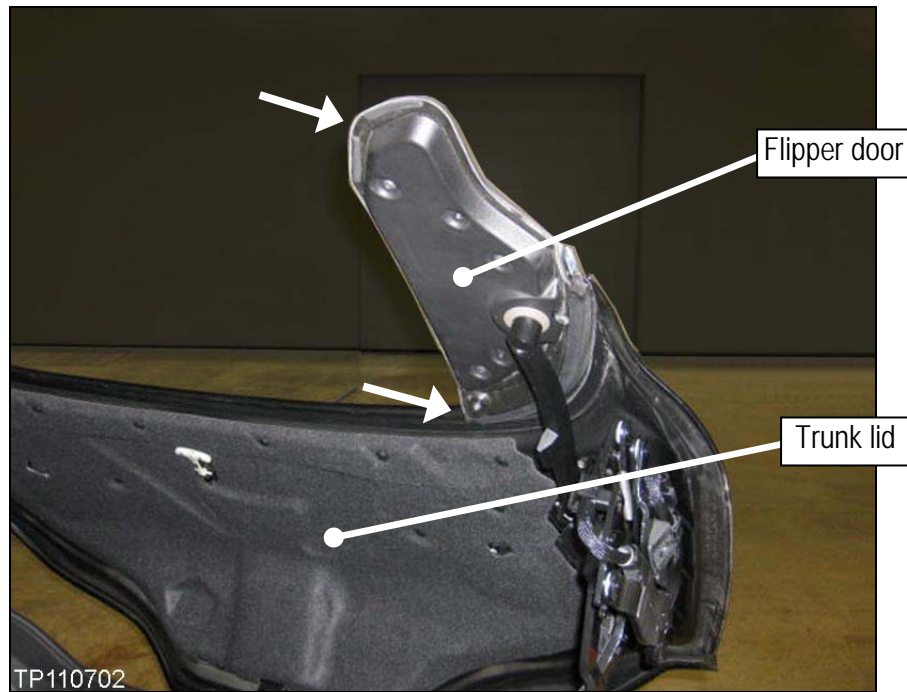

Figure 32f
35. Proceed to open the roof until the trunk lid is in the position shown in Figure 32f.
36. If felt cloth is found under the flipper doors where pointed out in Figure 32f, skip to Step 38.